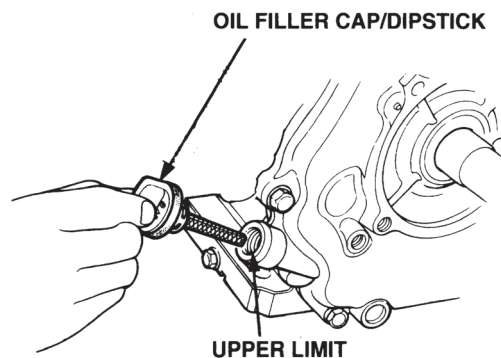

Figure 4-2: Checking Oil Level
- H. When oil reaches the upper limit, install the oil filler dipstick/cap (Figure 4-2).